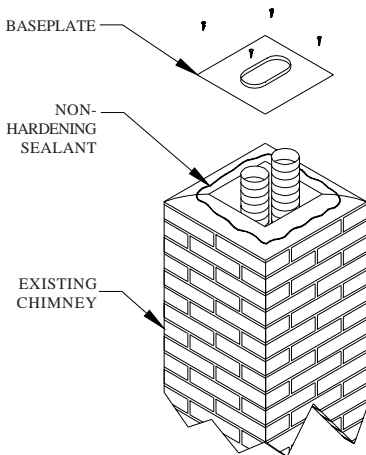

FIGURE 5
**Step 6.** At the top of the chimney, slide the Baseplate over the two ends of the Flex Liner and secure it to the surrounding masonry using masonry anchorbolts. Before installing the baseplate, run a bead of non-hardening sealant between the Baseplate and the masonry to prevent moisture from entering the chimney. (Figure 5)